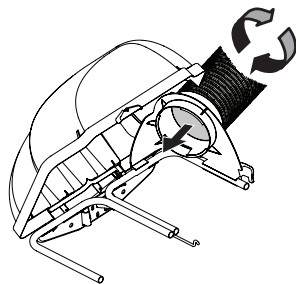

Figure 27
1. Thread the upper end of the hose (764-05082) securely into the upper chute support. There are two tabs on the lower inside part of the upper chute support to allow for secure threading. See Figure 27.